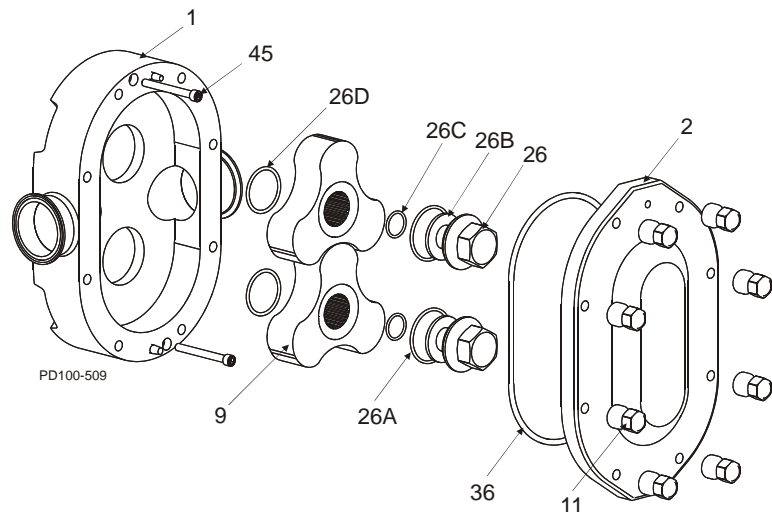

Figure 80 - Exploded View of Fluid Head
2. Install the body (Figure 80, item 1) to the gear case assembly, aligning the body with the body studs. Avoid damaging the seals as the body is drawn over the shafts.
3. Secure the body to the gear case using two cap screws (Figure 80, item 45).
1. Lubricate the o-ring (Figure 80, item 26D) with a lubrication compound compatible with the o-ring material and process fluid(s).
2. Install the new rotor hub o-rings (item 26D) into the groove in the rear of the rotor.
3. Install the rotors (item 9) onto the shafts with the o-ring toward the gear case.
Table 9: Callout table for Figure 80
1. Install the belleville-style washer (Figure 80, item 26B) into rotor nut with raised side of washer toward rotor nut.
2. Place the retainer o-ring (item 26C) into rotor nut to retain the belleville-style washer. The washer should not be tight against the o-ring.
3. Lubricate the new rotor nut o-ring (item 26A) with a lubrication compound compatible with the o-ring material and process fluid(s). If the o-ring is not lubricated it will pucker when tightening the rotor nut.
7. Screw the rotor nuts (Figure 80, item 26) onto the shafts (clockwise) and tighten them to the required torque.
1. Clean the cover o-ring (Figure 80, item 36) and install it in the groove in the cover.
3. Install the cover (Figure 80, item 2) on the pump body.
5. Tighten the cover securely using the cover nuts (Figure 80, item 11).